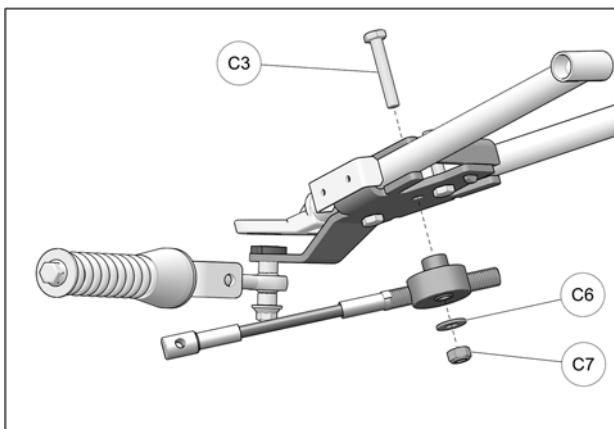

Fig. 23
12. Pass bolt (**C3**) down through opening in bracket cover and insert it in the anchor bracket's central hole. Slip steering limiter cable assembly over bolt (**C3**) and use washer (**C6**) and nut (**C7**) to secure assembly to anchor bracket. Tighten nut to 50 N·m [37 lb·ft]. Refer to Fig. 23